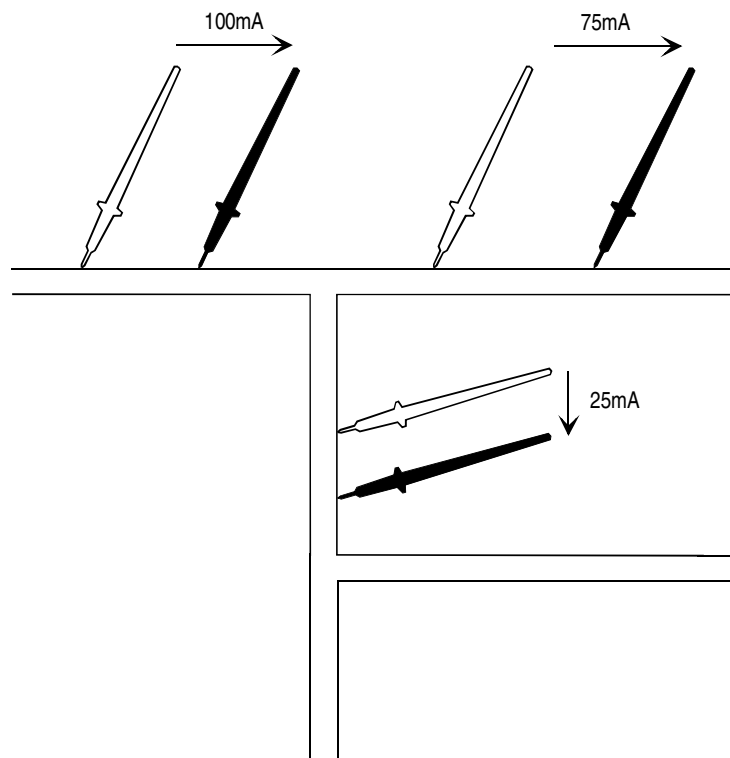

Figure 4-3 Track Current Measurement
- Use the Needle Probes to measure the current flowing in a track (see Fig 4-3). The probes should be kept a few millimetres apart to ensure a valid reading. If the probes are too close the UNCALIBRATED LED will light.